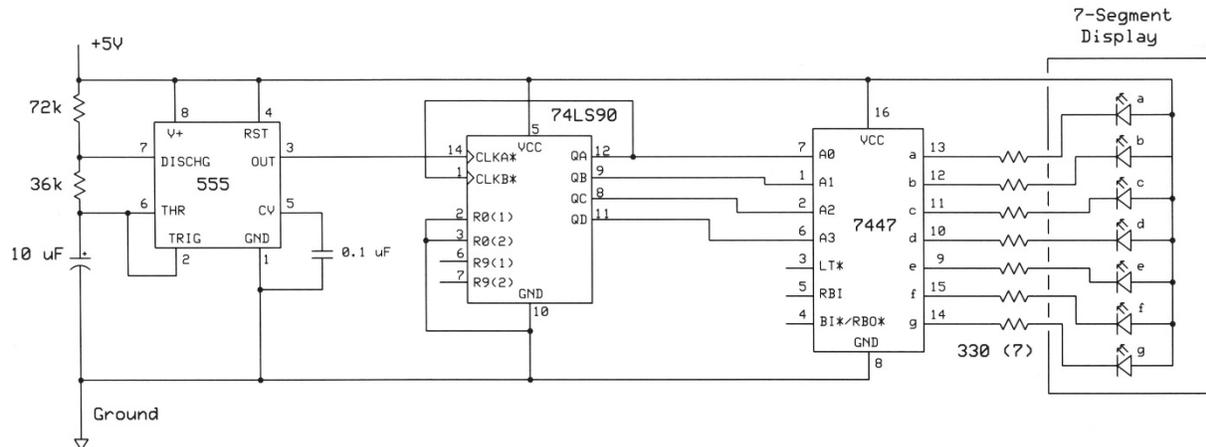

Figure 3.18.
Carefully remove the 74LS93 IC from your breadboard and set it aside. Take a 74LS90 decimal-counter IC and insert it in your breadboard in place of the 74LS93 IC you just removed. Ensure you have pin 1 of the 74LS90 in the same position as you used for pin 1 on the 74LS93 counter. Although you have not changed any wiring, double check your connections to the 74LS90. The circuit diagram in **Figure 3.18** shows the connections you should have now.
For now, the circuit shown in **Figure 3.18** will not count. Both R9 reset inputs lack a connection to logic-0, so they "float" to a logic-1 and thus hold the counter in the reset-to-9 (1001_2) state. Thus the display constantly shows the numeral 9. Turn off power to your circuit, and on the 74LS90 IC connect the R9(1) pin (pin 6) to ground. Now turn on power again. Does the displayed count show: 0, 1, 2... ..8, 9, 0, 1, and so on? It should.